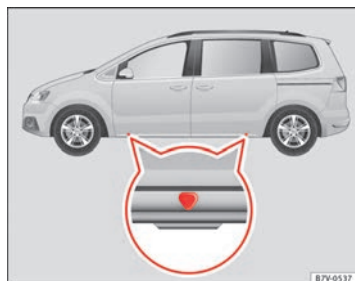
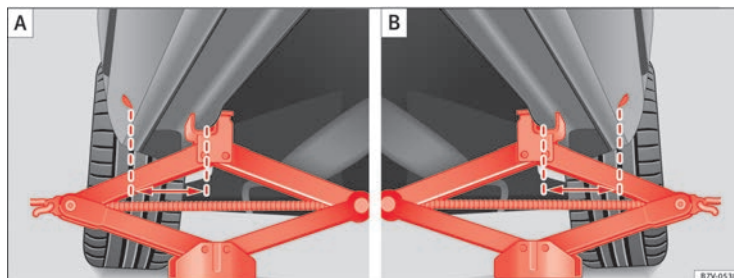

Fig. 185 Jack position points
Fig. 186 A: jack mounted on the left front part of the vehicle B: jack mounted on the left rear part of the vehicle.
The jack may be applied only at the jacking points shown (marks on chassis) ⇒ fig. 185. The mark indicates the jacking points **below** the vehicle. The jacking points are on the ribs **behind** the front edges ⇒ fig. 186. Always the relevant jacking point for the wheel to be changed ⇒ ⚠.
5. Look below the vehicle for the jacking point ⇒ fig. 185 closest to the tyre which has to be changed.
7. Ensure that the foot of the jack is firmly on the ground and that it is placed immediately below the lifting point on the vehicle ⇒ fig. 186.
8. Straighten the jack and continue raising it using the handle until the claw holds the vertical reinforcement beneath the vehicle ⇒ fig. 186.
- Only fit the jack at the prescribed jacking points. The claw of the jack should grip the reinforcement nerve on the underbody ⇒ fig. 186.